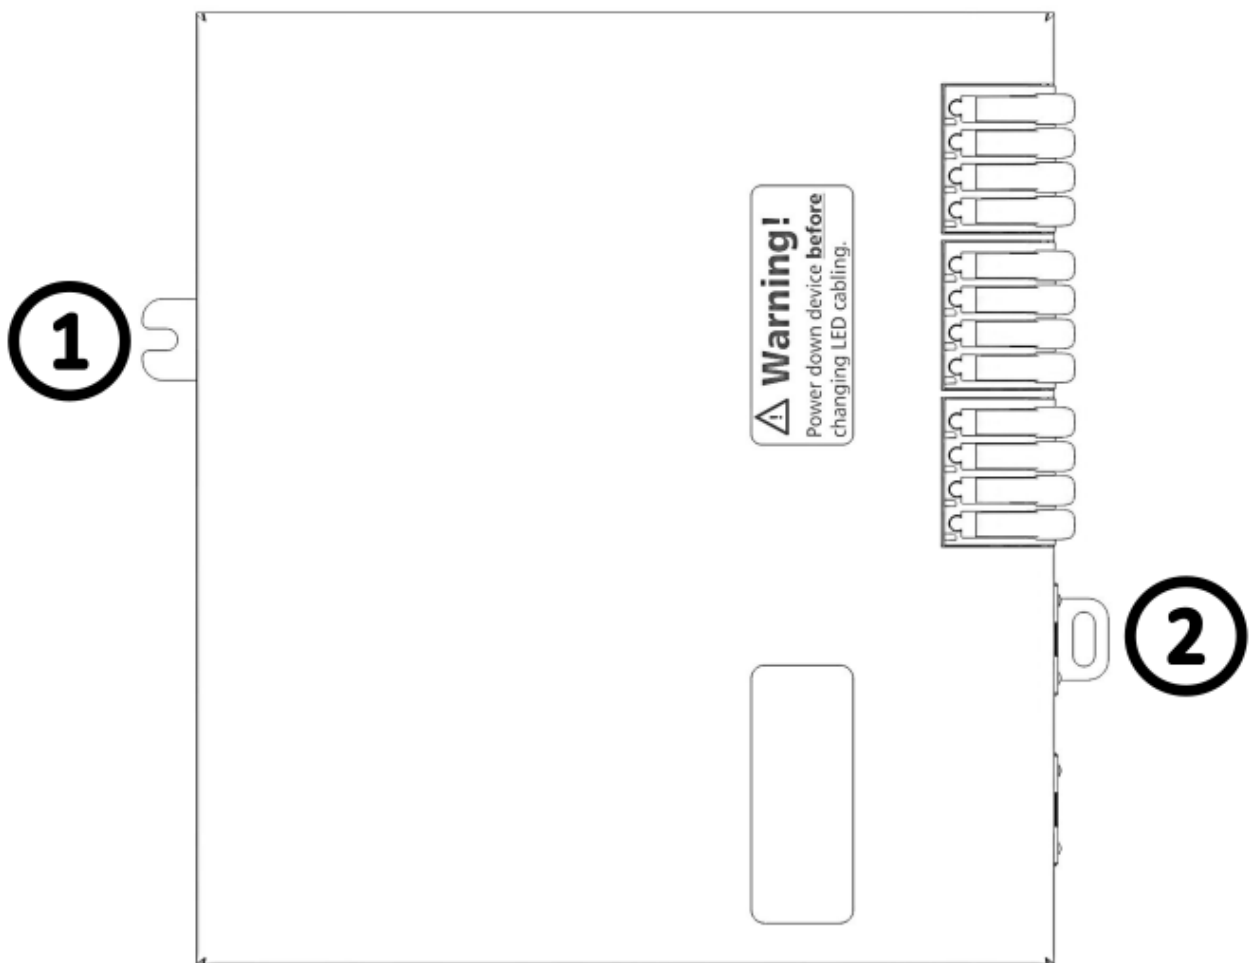

Figure 4. Mounting tabs - SLCv4
1. Pull the release lever (Fig. 4, ①) to unlock the clamp and lift the device (Fig. 4, ②) to remove it from the top hat rail.